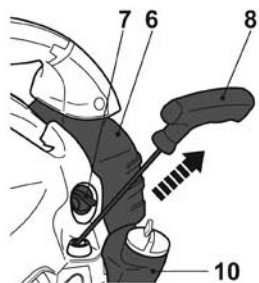

Fig. 9
- > The recoil starter handle (8) is positioned close to the air filter case (6) / choke (7) / fuel tank (10).
- > Hold the product stable and pull the recoil starter handle (8) lightly until you feel resistance then pull it rapidly. Do it again until the engine starts (Fig. 9).